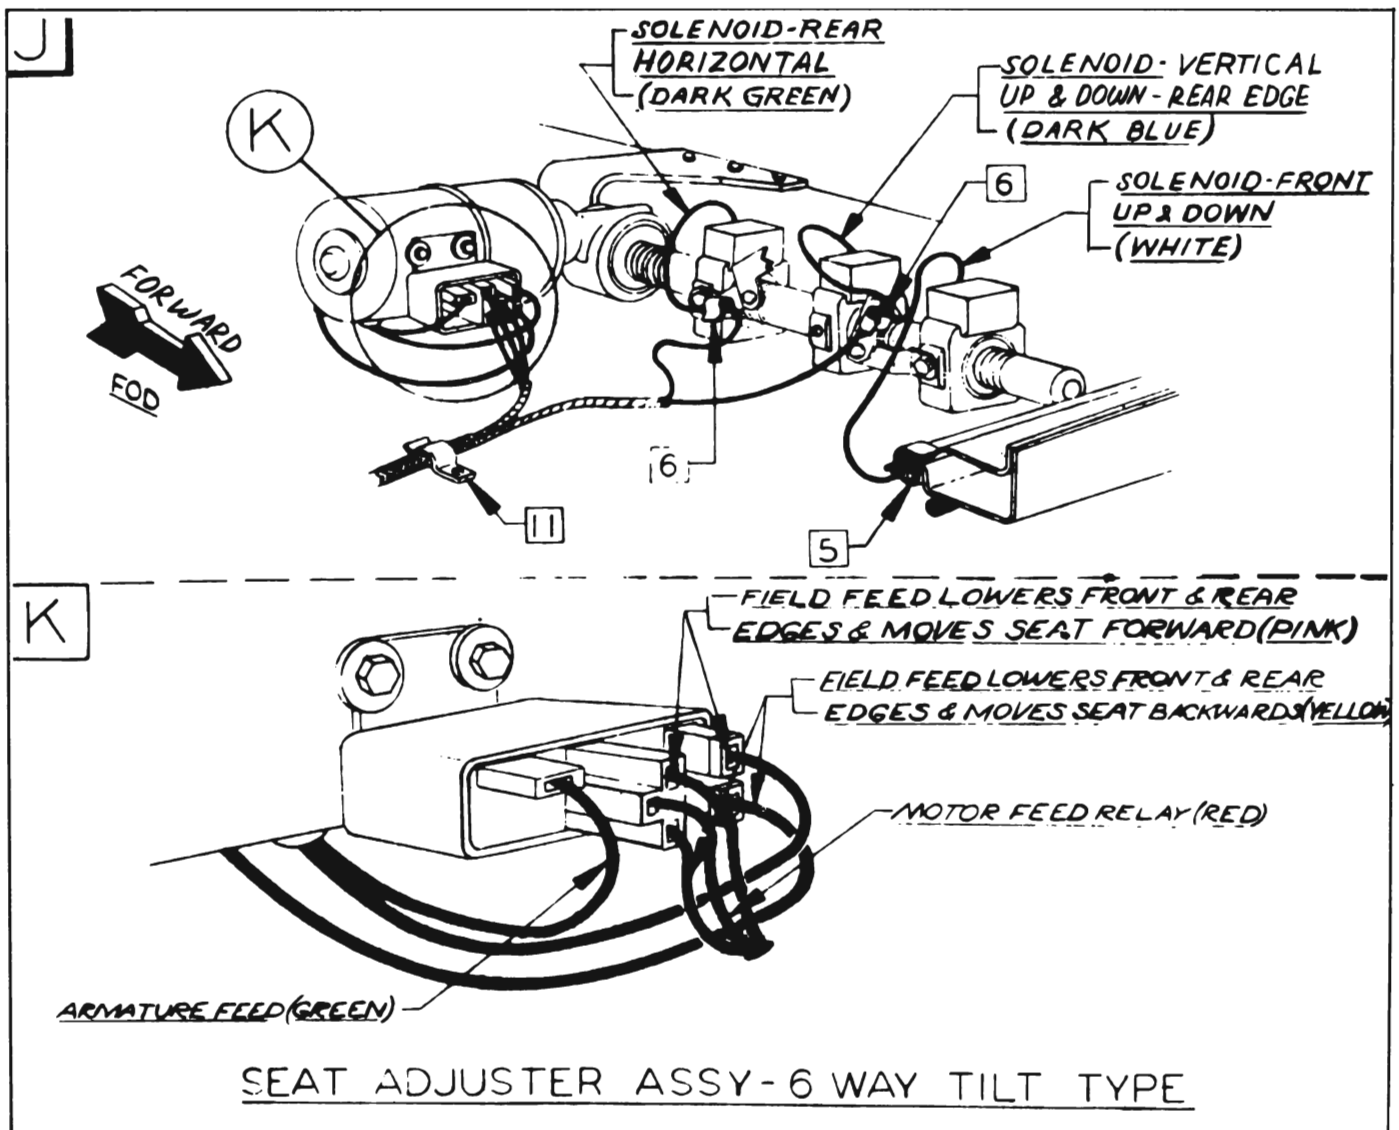

Figure 13-82—Seat Adjuster Assembly—6-Way Seat
4. Disconnect the three spinning nut solenoid feed wires at connectors and disconnect control harness wires from connector at motor relay. Fig. 13-82.
7. To install seat adjuster actuator assembly, reverse removal procedure. Connect relay and solenoid wires as indicated in Fig. 13-82. After installation of seat assembly check all six operations of seat to extreme limit of each position.